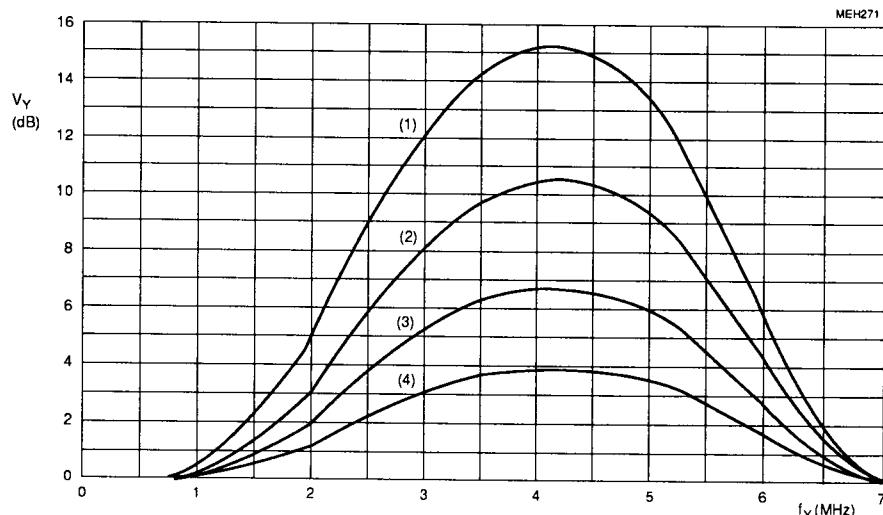

Fig.5 Peaking frequency response with I²C-bus control bits BP1 = 0; BP0 = 0 and BFB = 0:
YUV-bus timing (pins 4 to 11 and 14 to 21) Fig.5
MC timing (pin24) Fig.5
1. YUV-bus data is read at MC = HIGH (pin 24) clocked with LLC (Fig.5). Data is read only with every second rising edge of LLC when CREF = LLC/2 on MC-pin 24.